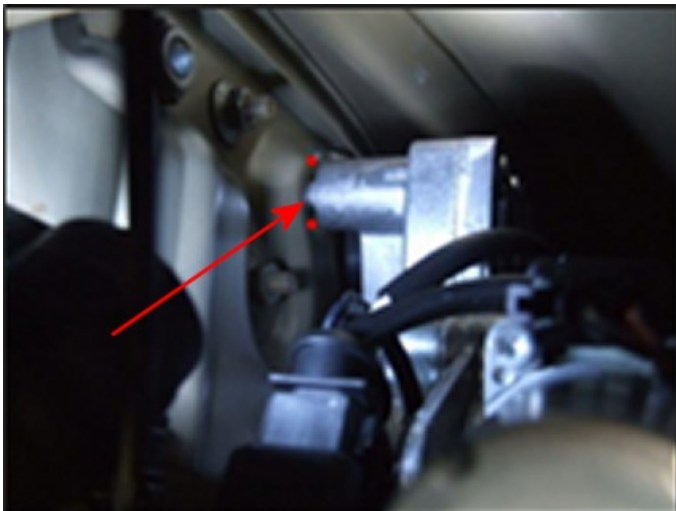

Figure 23
- Carry out closing force gauge test – if the load measured to initiate the close cycle is less than 1Kg and the boot completed three consecutive power open and close cycles then the campaign is complete, apply a white campaign identification mark to the boot striker plate (see Figure 23) otherwise continue with stage 3 checks
- a. Not applicable to GT Convertible derivatives - Remove tail lamp (right hand) on boot motor side to enable check. Check that the power boot motor is correctly aligned on to the hinge splines and that the locating peg (see figure 23) is fully engaged in the body location and tapping plate - where necessary loosen motor and correct alignment